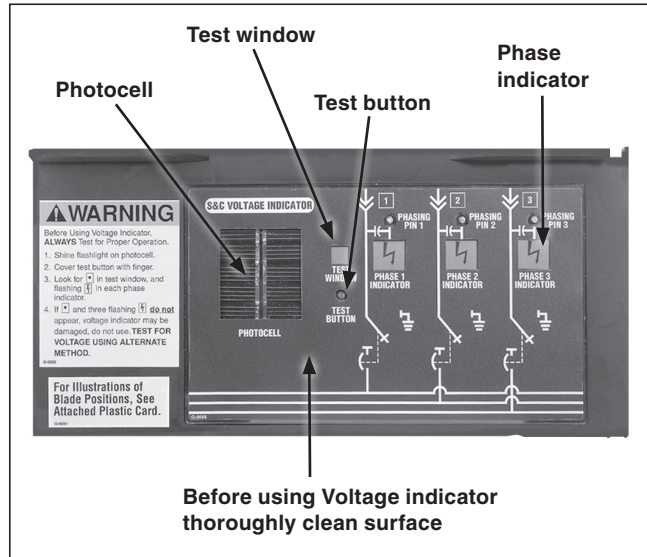

Figure 21. Voltage indicator with test feature.
STEP 1. Clean the surface of the **Voltage** indicator of dirt and debris. See Figure 21.